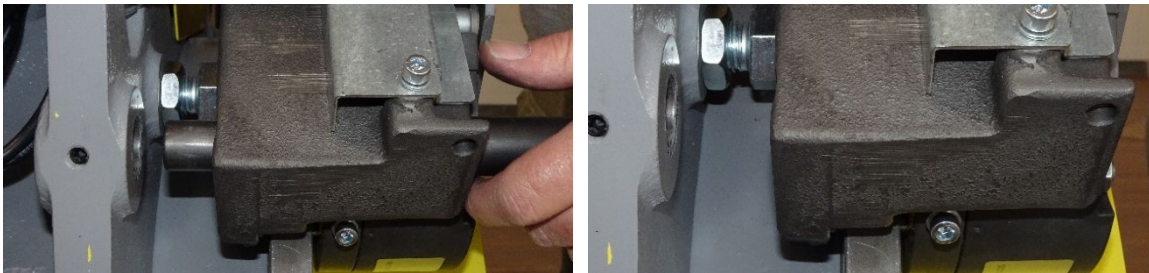

Figure 38
6. Remove the brake pin (Figure 38).